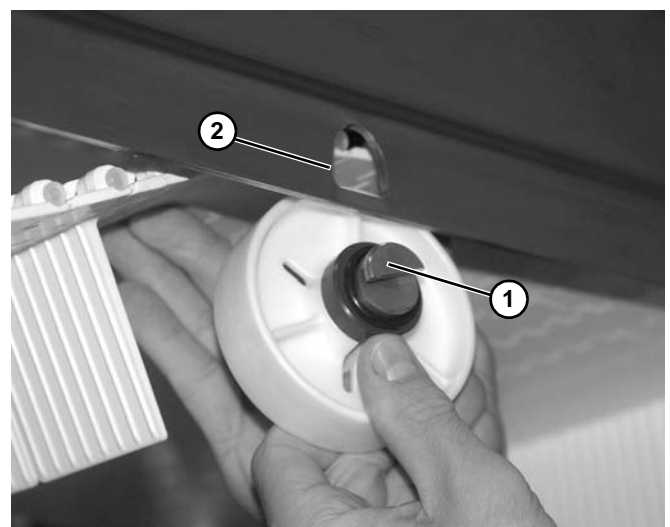

Figure 119
1. Remove the notched end of the return shaft (**Figure 119, item 1**) from the small hole (**Figure 119, item 2**) in the inside of the conveyor frame.